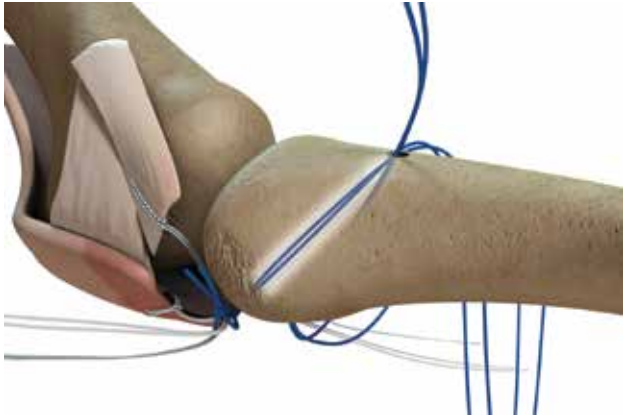
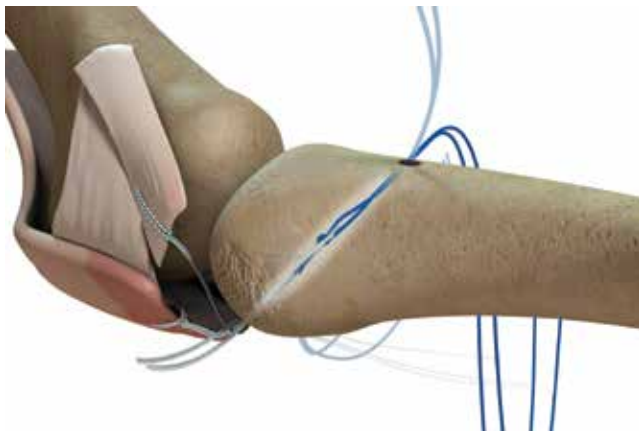

Figure 20a: Pass sutures through the bone tunnel
Figure 20b
10. Pass the ULTRABRAID® #2-0 Sutures from the lateral plantar plate and collateral ligaments through the suture loop on the lateral plantar side of the tunnel (Figure 20a). Pull the sutures through the bone tunnel and retrieve the sutures on the medial dorsal side of the tunnel (Figures 20b and 20c).